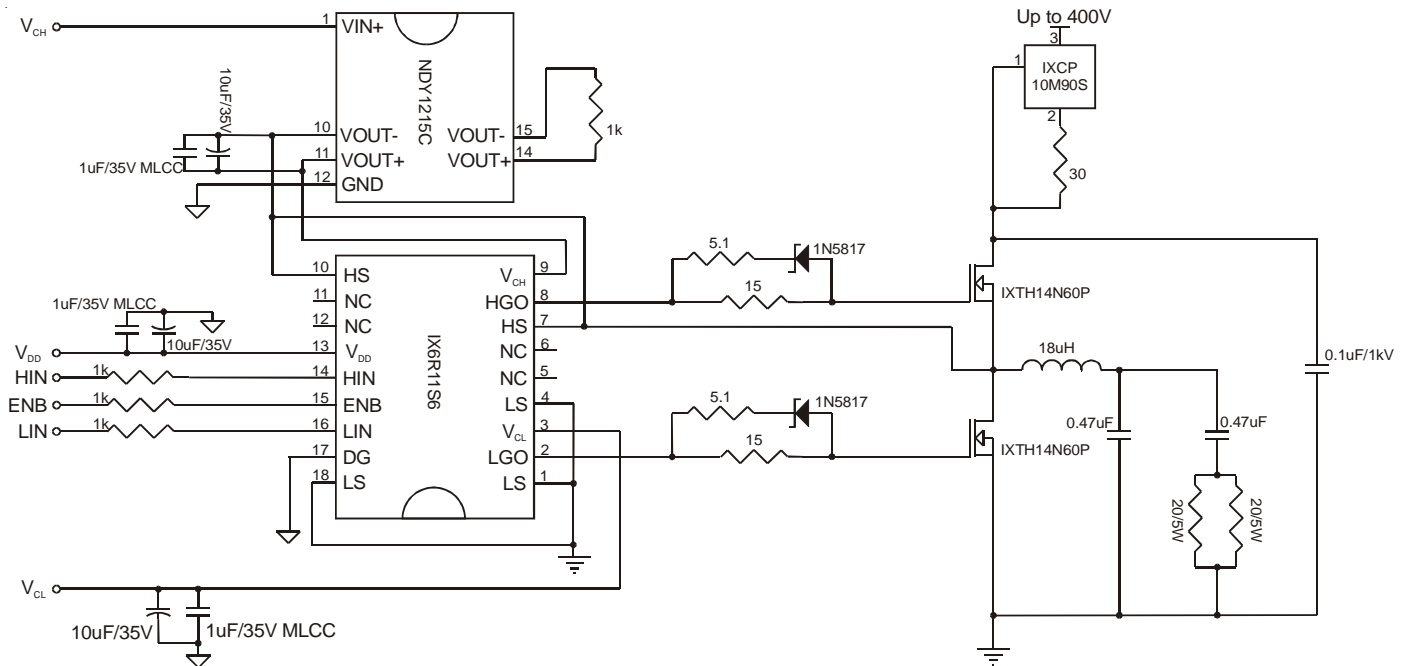
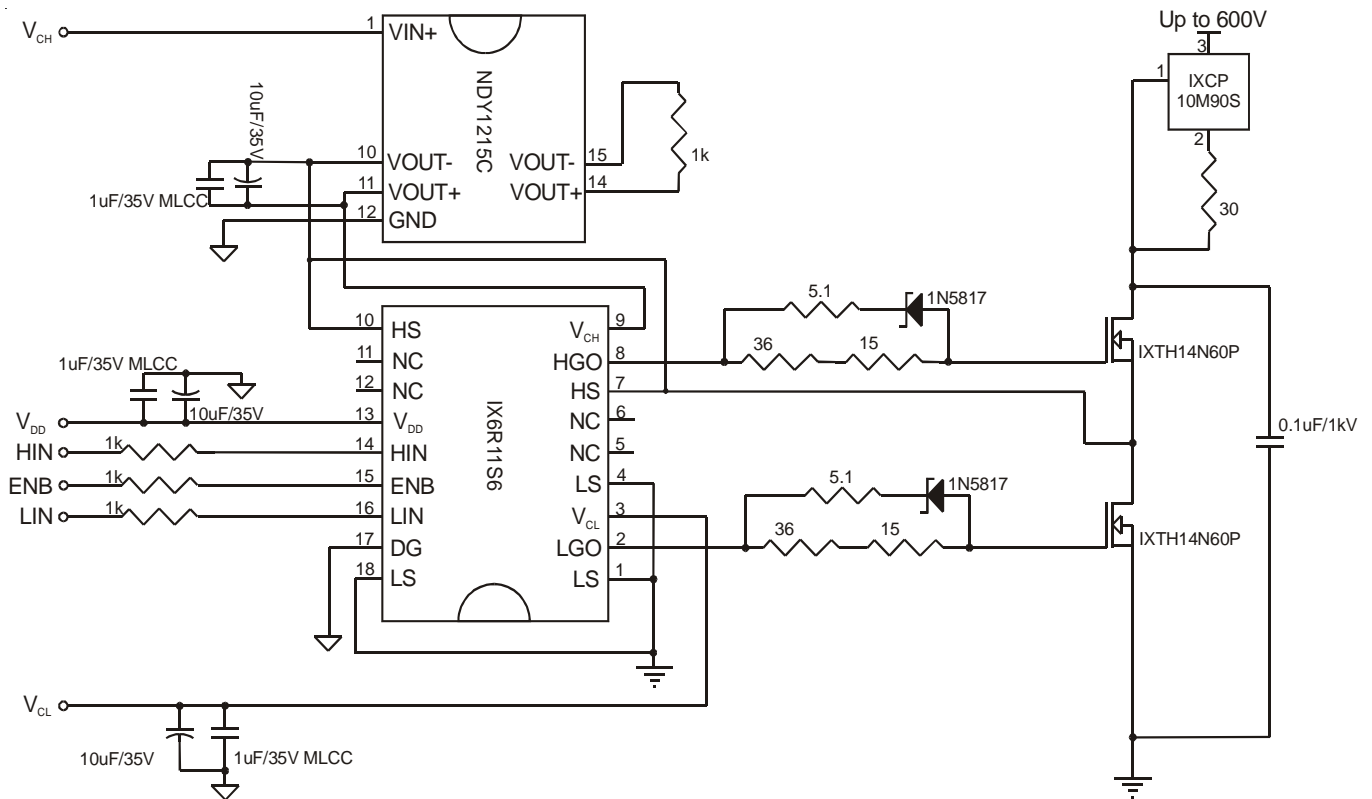

Figure 10. Test circuit for high frequency, 750kHz, operation.
Figure 11. Test circuit for low frequency, 75kHz, operation.
*Operational voltage rating of 600V determined in a typical half-bridge circuit configuration (refer to Figure 10 and Figure 11).